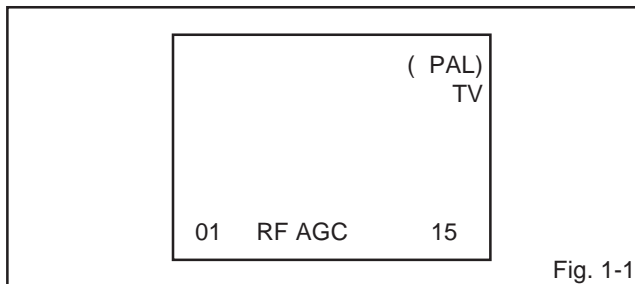

Fig. 1-1
2. Press the VOL. DOWN button on the set and the channel button (**9**) on the remote control for more than 2 seconds to display adjustment mode on the screen as shown in **Fig. 1-1**.
3. Activate the adjustment mode display of **Fig. 1-1** and press the channel button (**13**) on the remote control to select "VCO COARSE".
8. Activate the adjustment mode display of **Fig. 1-1** and press the channel button (**15**) on the remote control to select "VCO COARSE L1".
4. Activate the adjustment mode display of **Fig. 1-1** and press the channel button (**39**) on the remote control to select "REC AGC".
4. Activate the adjustment mode display of **Fig. 1-1** and press the channel button (**01**) on the remote control to select "RF AGC".